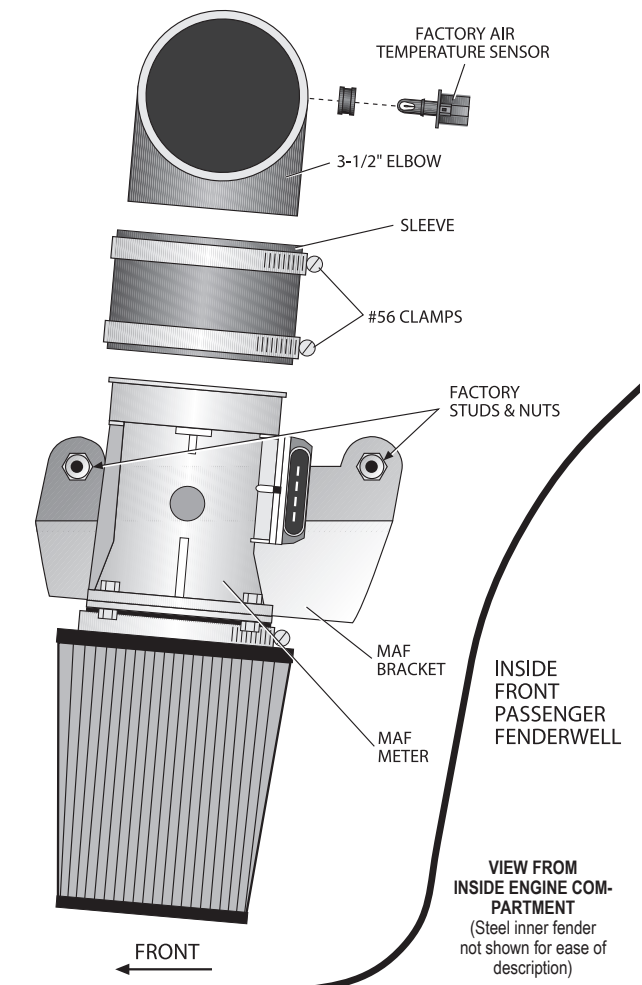

Fig. 10-a
- D. Working from beneath the vehicle, remove the two factory nuts and washers from the passenger side lower fender valence. Mount the MAF/bracket assembly onto the existing studs using the same washers and nuts originally removed (see Fig. 10-a).
- G. Attach the supplied 1" x 8.5" rubber hose and #16 hose clamp to the white 1" plastic 90° elbow located on the molded plastic (see Fig. 10-c) inlet duct.